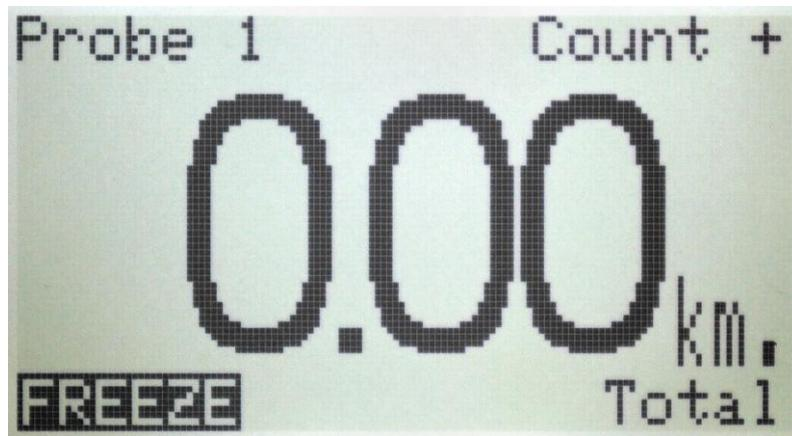

Figure 1 - Display Picture – Normal Mode
Once the T101 has initialised the display will look like the figure 1. The centre of the screen displays the distance counter (3) and units (4) that the units [miles or km] in which the unit has been calibrated.